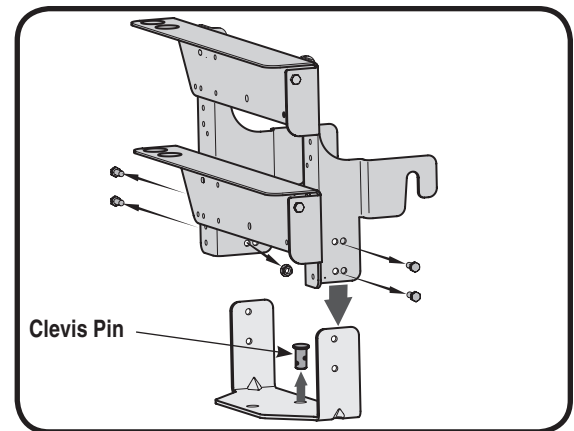

Figure 3-5
4. Remove the hairpin clip and clevis pin from the rear of the mounting bracket assembly. See Fig. 3-5.